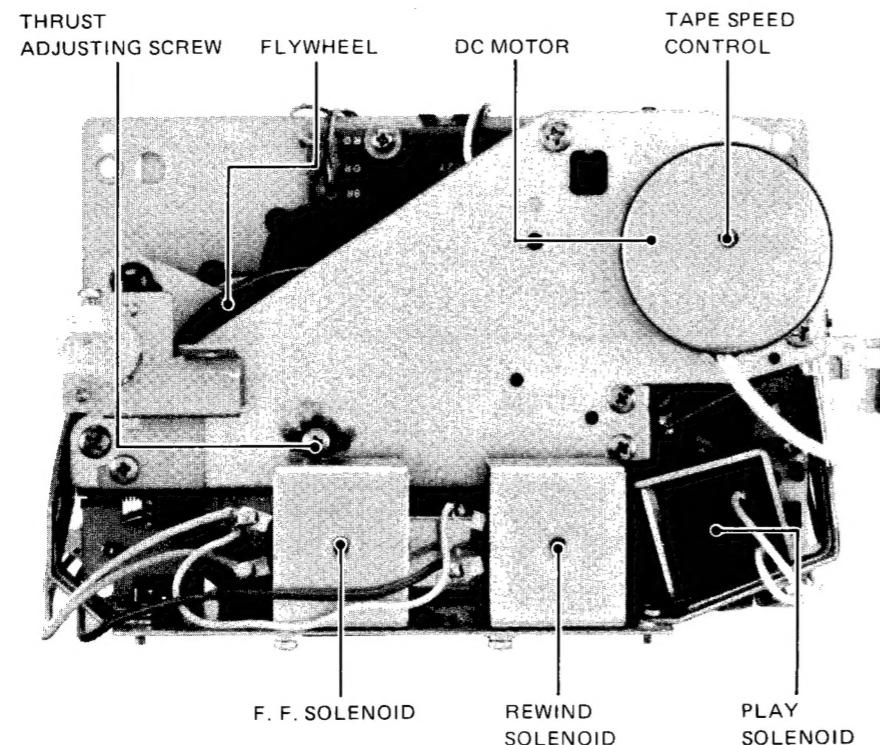

Fig. 3-4 Transport rear view
- Turn the thrust adjusting screw so that thrust of the capstan shaft is from 0.1 mm to 0.3 mm. For the thrust adjusting screw location, see Fig. 3-4.
- While the tape is playing, use a common slotted screwdriver with the handle completely insulated from the blade, and adjust the control built into the motor (see Fig. 3-4.) for a reading of 2,985 to 3,015 Hz on the frequency counter.
スラスト調整ねじ (Fig.3-4参照) でスラストのガタを0.1~0.3 mmの範囲内に調整。